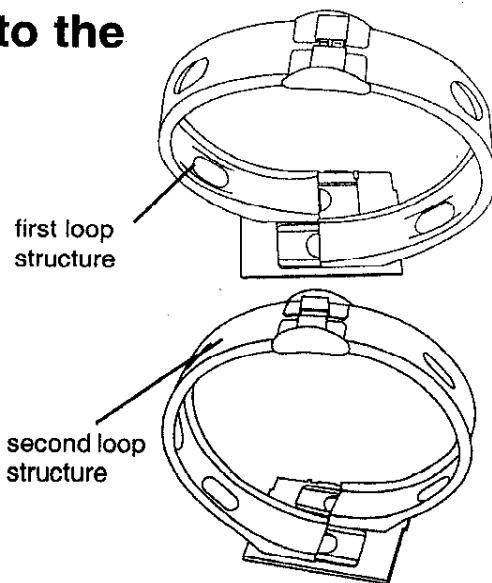

figure 1
- Attach the remaining loop to the remaining small baseplate in the same way, but this time reverse the position so that it looks like **figure 1**.